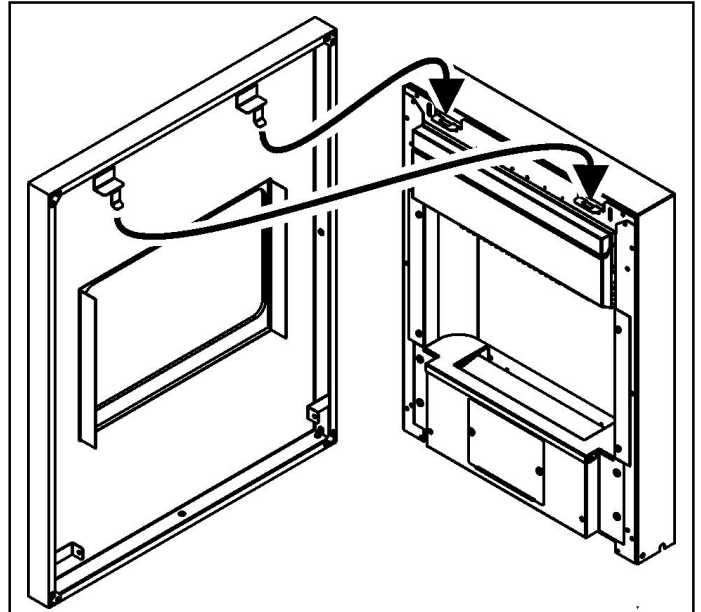

Figure 12. Fitting the fascia (Fascia may differ from that shown).
1. There are two hooked brackets on the top rear of the fascia. Locate the hooks into the brackets at the top of the heater (See figure 12).